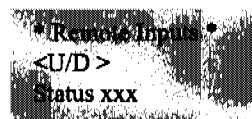

Figure 4.40. Remote inputs message
3. Selecting **Remote Inputs** displays the current status of the sample concentrator's input signal (Figure 4.40).